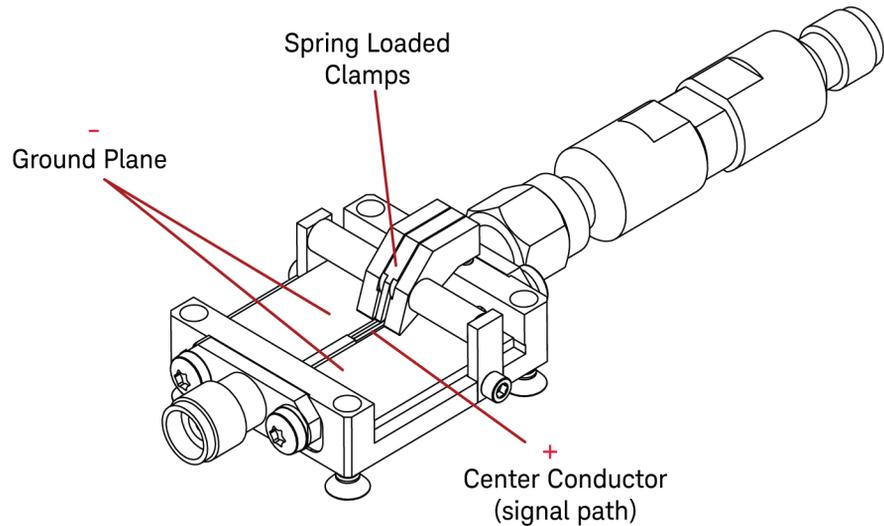

Figure 15 Signal Path and Ground Locations on PV Fixture
- b** Place the positive (+) tip of the probe (red alligator clip) on the center conductor (signal path) of the PV fixture. The center conductor (signal path) is indicated in Figure 15.
- b Place the positive (+) tip of the probe (red alligator clip) on the center conductor (signal path) of the PV fixture. The center conductor (signal path) is indicated in Figure 15.